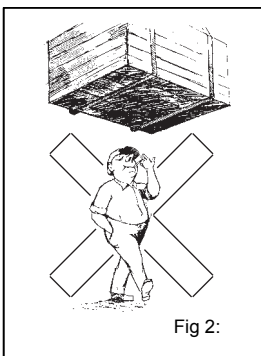

Fig 2:
- Do not allow personnel to pass under a suspended load (see Fig. 2).